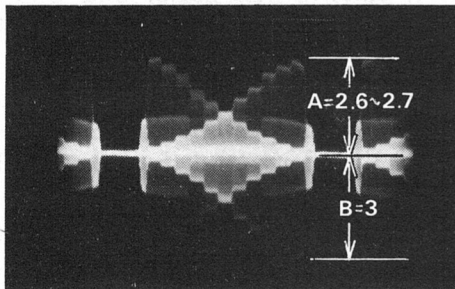

Fig 7.34
- (1) Remove the lens cap to focus on the grey-scale pattern, and effect the procedure detailed in Section 7.2.7.1 (TP-1 = 0.6V)
- (2) Connect the oscilloscope probe between terminals TP-3 and TP-E located on the Video Process PCB (CA 1501A)
- (3) Adjust C45 **PHASE SET** trimmer on CA 1501A to set the (2R + B) phase at A: B = 2.6 to 2.7:3 as shown in Figure 7.34.